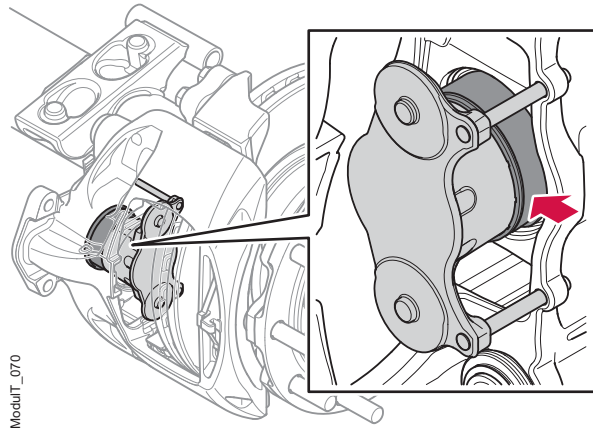

Figure 29. Inspect the adjustment screw bellows
3. Inspect the adjustment screw bellows, see figure 29. Look all around the bellows for damage signs that could have been caused by debris, stones or overheating.